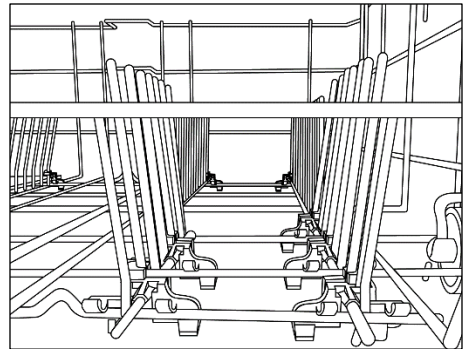
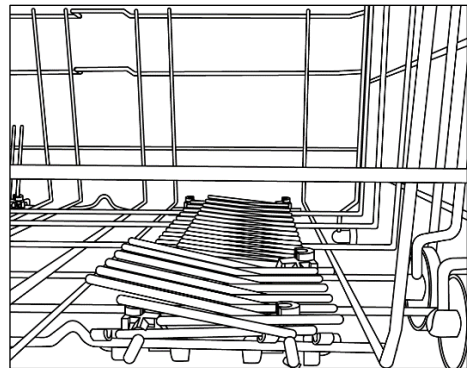

Figure 2
Figure 3
- The dishwasher is fitted with 3/4" threaded connector (fig. 2).
- **WATERBLOCK (fig. 3)**
2. Then slowly release into the correct position (fig. 2).
**N.B.: NEVER LIFT OR LOWER THE BASKET FROM ONE SIDE ONLY (fig. 3).**
In the lower basket you can find the foldable racks (fig.2 and fig.3) useful to provide the best stability to the dishes. With not standard dimension and/or shape ones you can raise/lower the racks to guarantee maximum load flexibility.
- For ease of cleaning, the central container is removable (fig. 2).
- Remove the gauze filter (fig.3) and wash the whole unit under a jet of water. If necessary a small brush can be used.